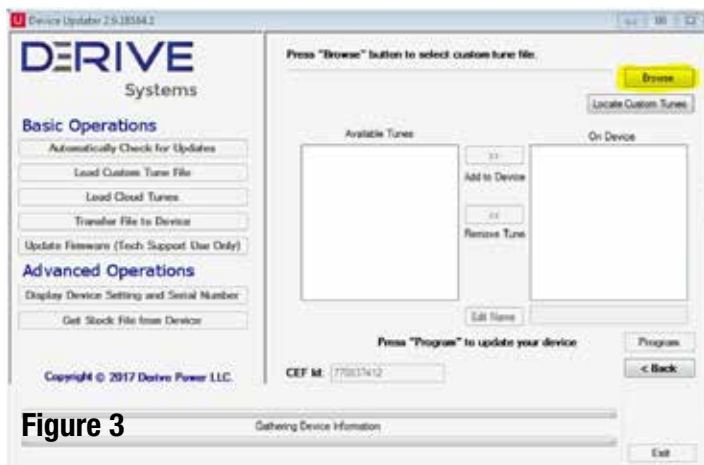

Figure 3
8. Select BROWSE to find the updated supercharger calibration file you just saved to your PC. (Figure 3)